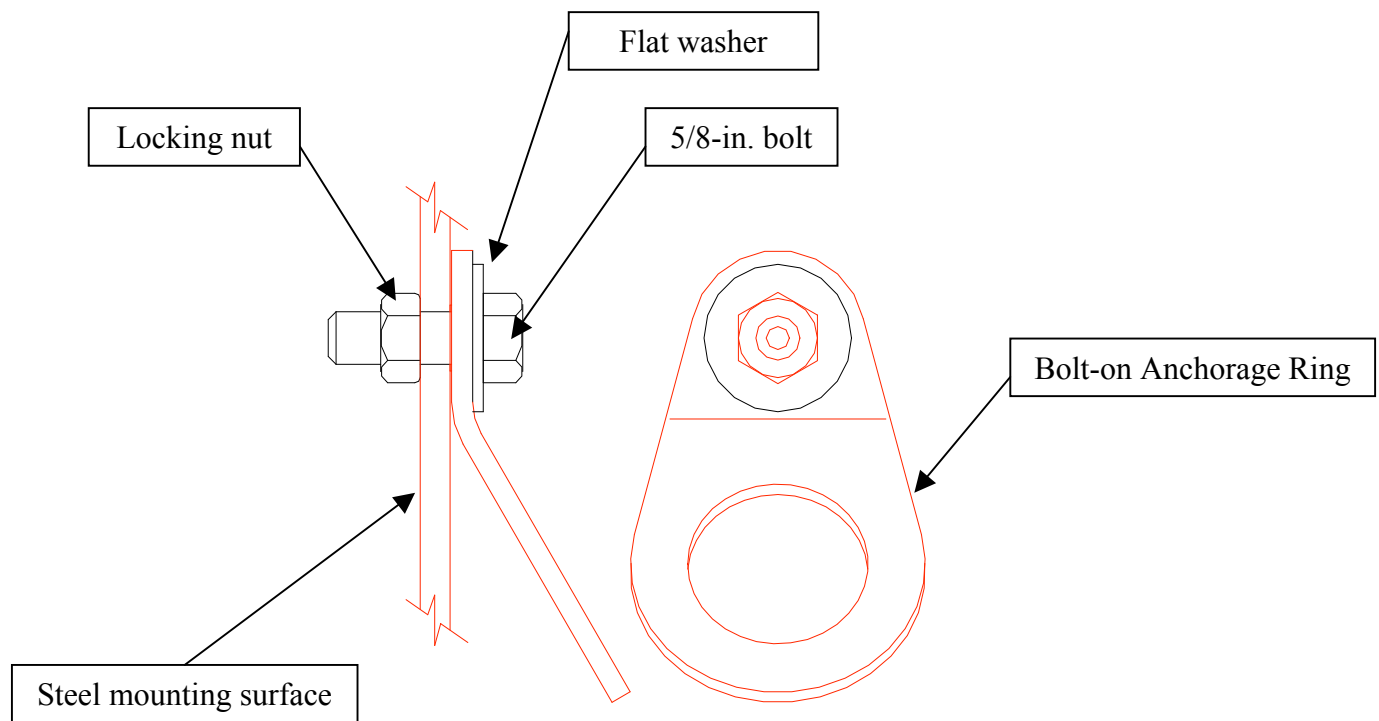

Figure 1
4. Place the flat washer onto the bolt. Slide the stainless steel Ring spacer on the bolt. Slide the Anchorage Ring onto the spacer. The Anchorage Ring should be placed onto the bolt such that the bend of the ring will be out from the mounting surface (see Figure 1 below).